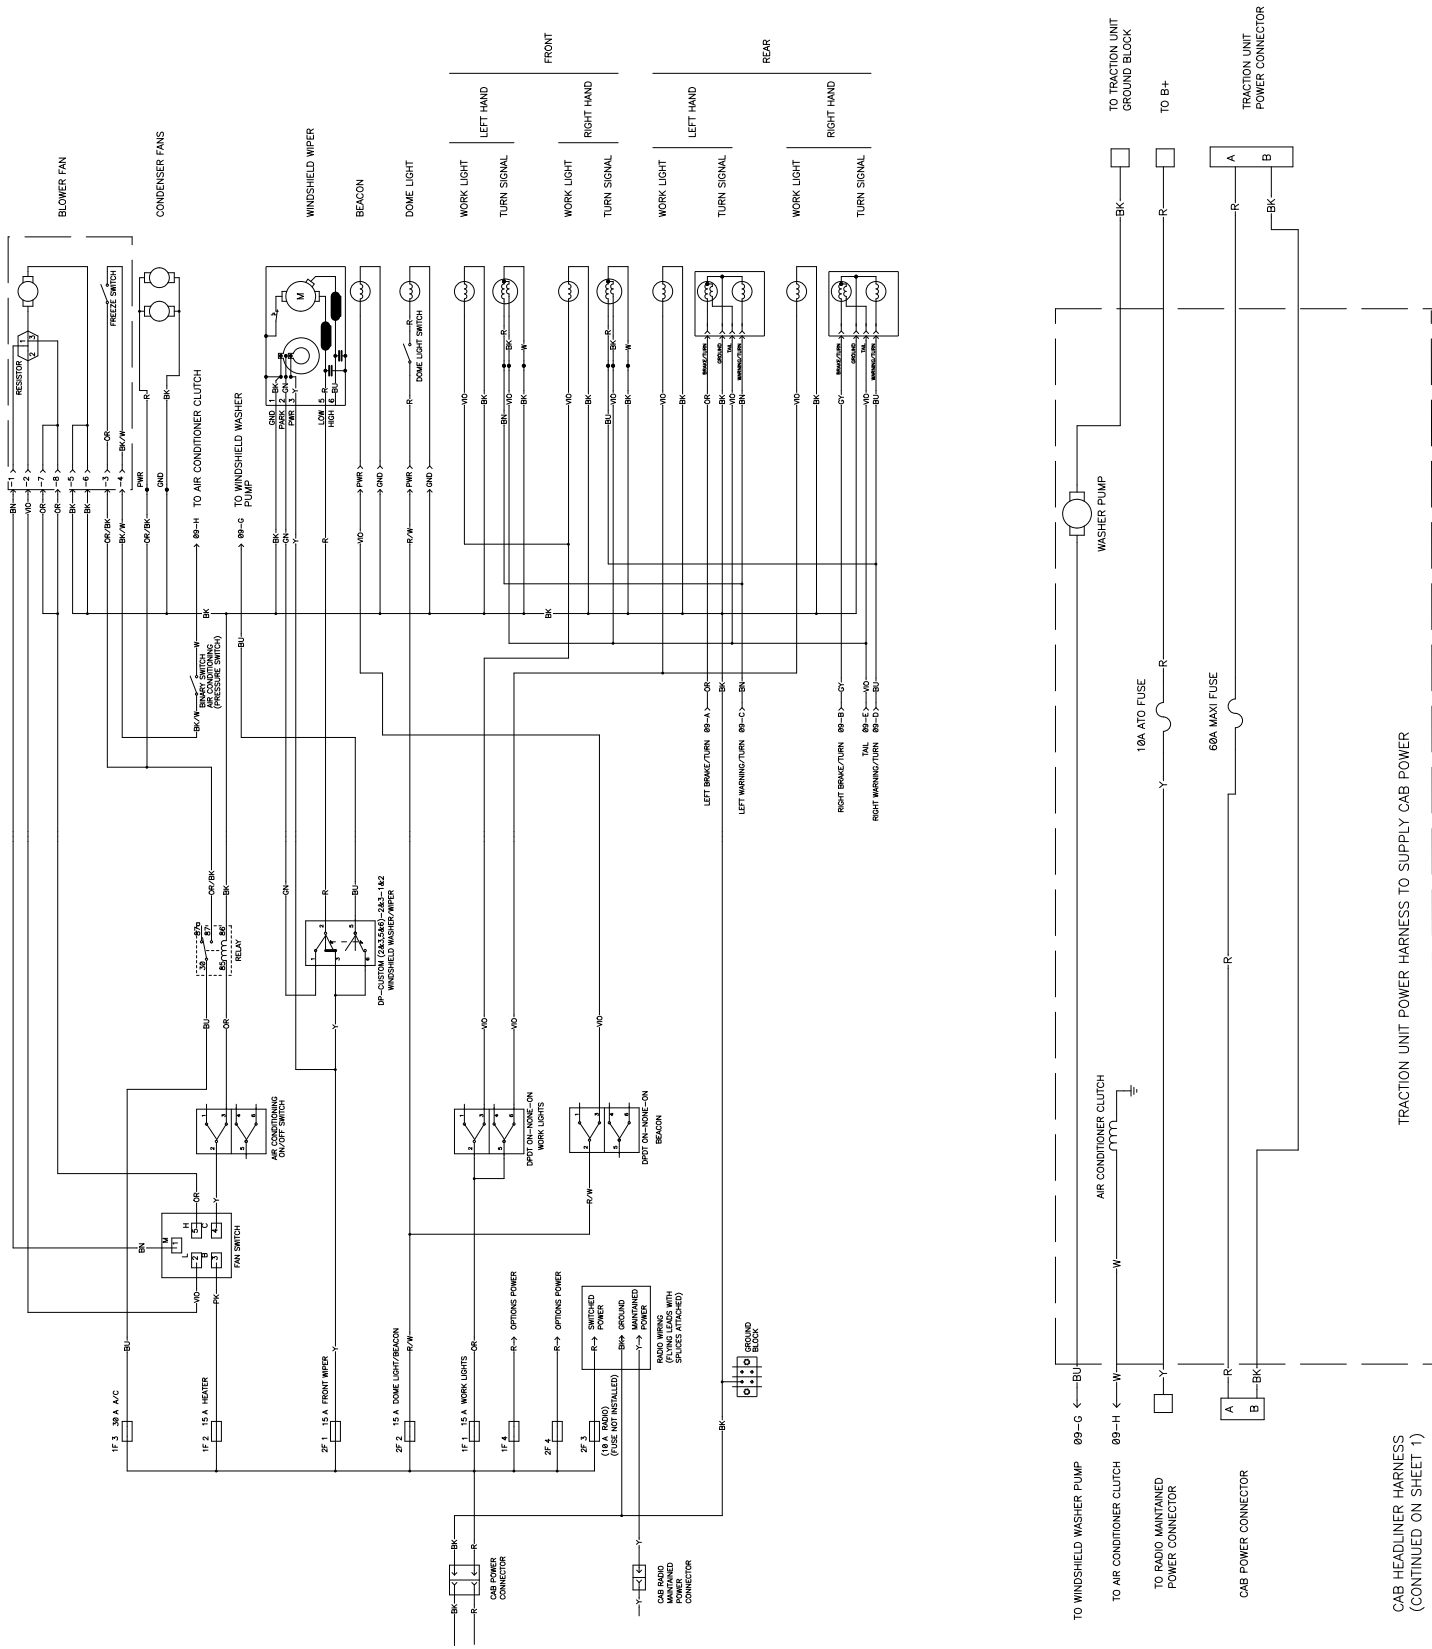

**Figure 59**
4. Open the 4 latches on the air-conditioning assembly and remove the screen (Figure 59).
7. Install the air filters, screen, and fan assembly (Figure 57, Figure 59, and Figure 58).